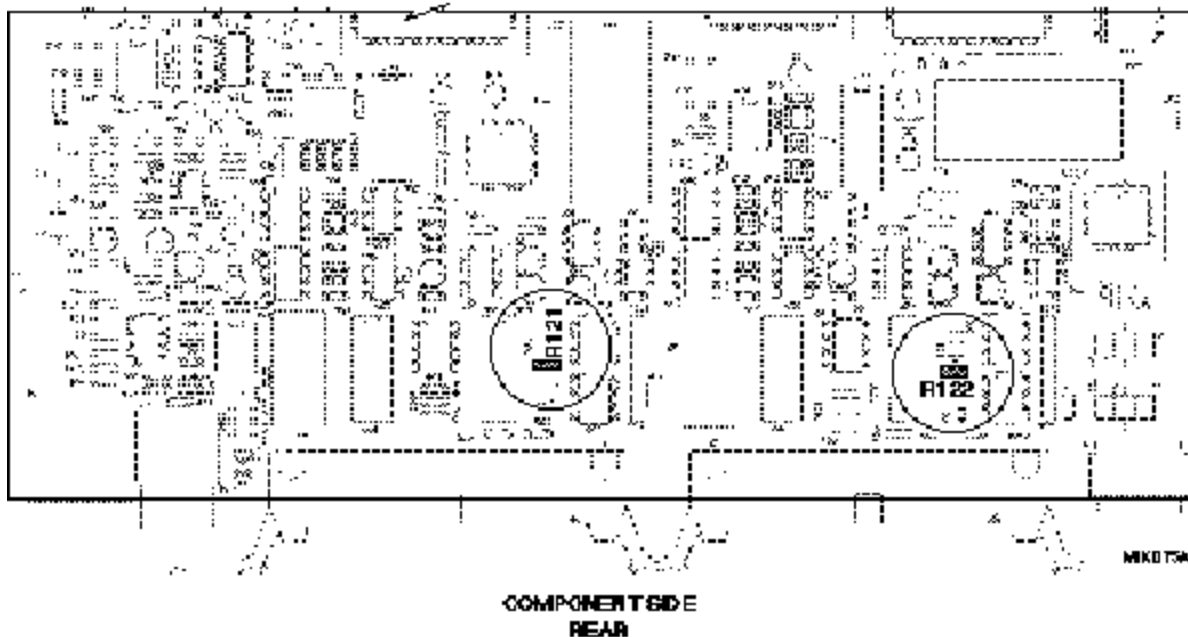

Figure 2. Jumper Insertion on Mother Board Component Side
6. To modify machine A, locate R121 adjacent to the 40 pin Transport 1 connector on the System Unit mother board as indicated in Figure 2. If required, locate R122 adjacent to Transport 2 connector to modify machine B.